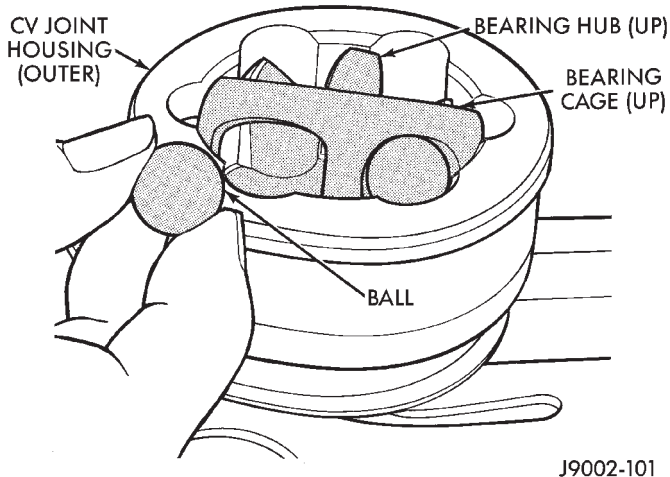

Fig. 22 Ball Installation In Raceway
(6) Tilt the bearing hub and cage and install the balls in the raceways (Fig. 22).